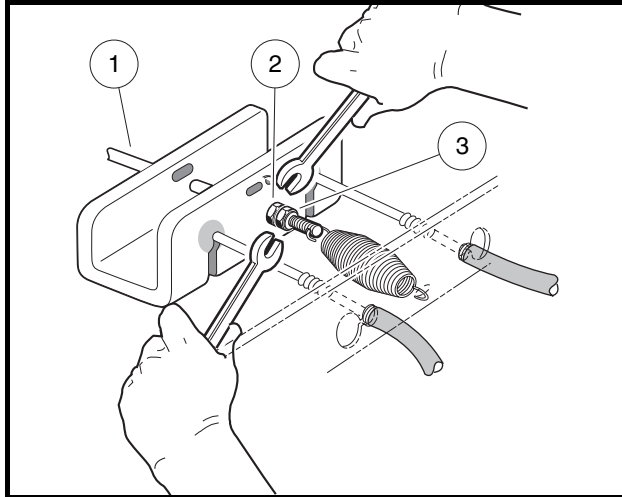

Figure 6-1 Loosen Equalizer Retaining Nuts
3. Loosen the equalizer retaining nuts (2 and 3) on the equalizer rod (1) to loosen the brake cable (Figure 6-1, Page 6-2).
3. Loosen the equalizer retaining nuts (2 and 3) on the equalizer rod (1) to loosen the brake cable (**Figure 6-1, Page 6-2**).